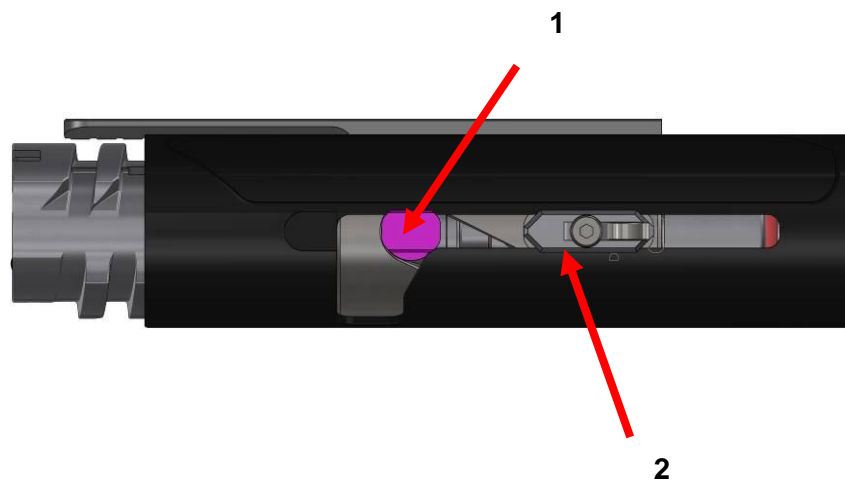

Figure 23
- (1) Insert the bolt into upper system part
Before inserting the bolt has to be unlocked (control bolt (1) and slot nut (2) have to point into same direction). (Figure 23)